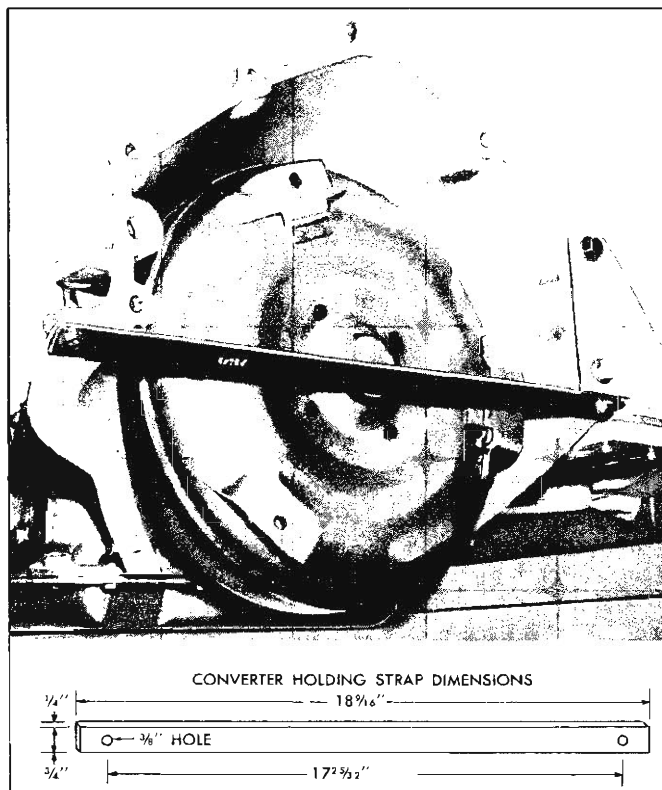

Fig. 9PG—Converter Holding Tool
**CAUTION:** Keep front of transmission upward to prevent the converter from falling out. Install converter Tool J-9549 (or a similar tool constructed as shown in Figure 9PG, or, in an emergency, a length of strong wire may be used) immediately after removal from the engine.